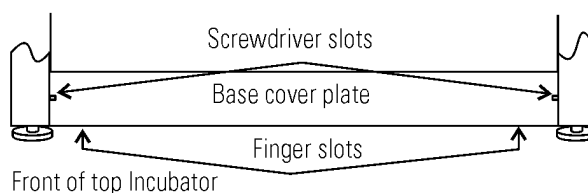

Figure 1-4. Remove Base Cover Plate
- Designate one incubator to be the top unit and the other as the bottom unit. Remove the base cover plate from the top unit using the finger holes in the base or using a slotted screwdriver (Figure 1-4).